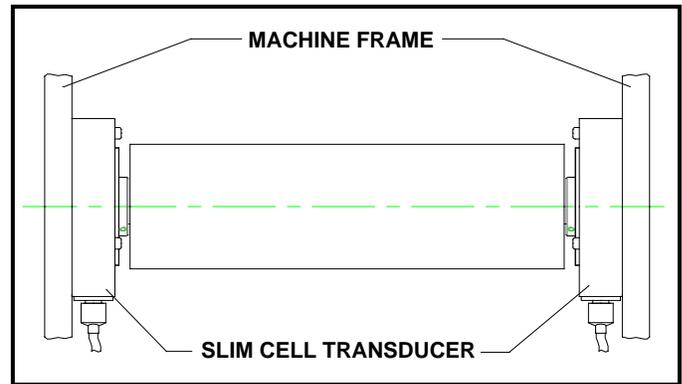
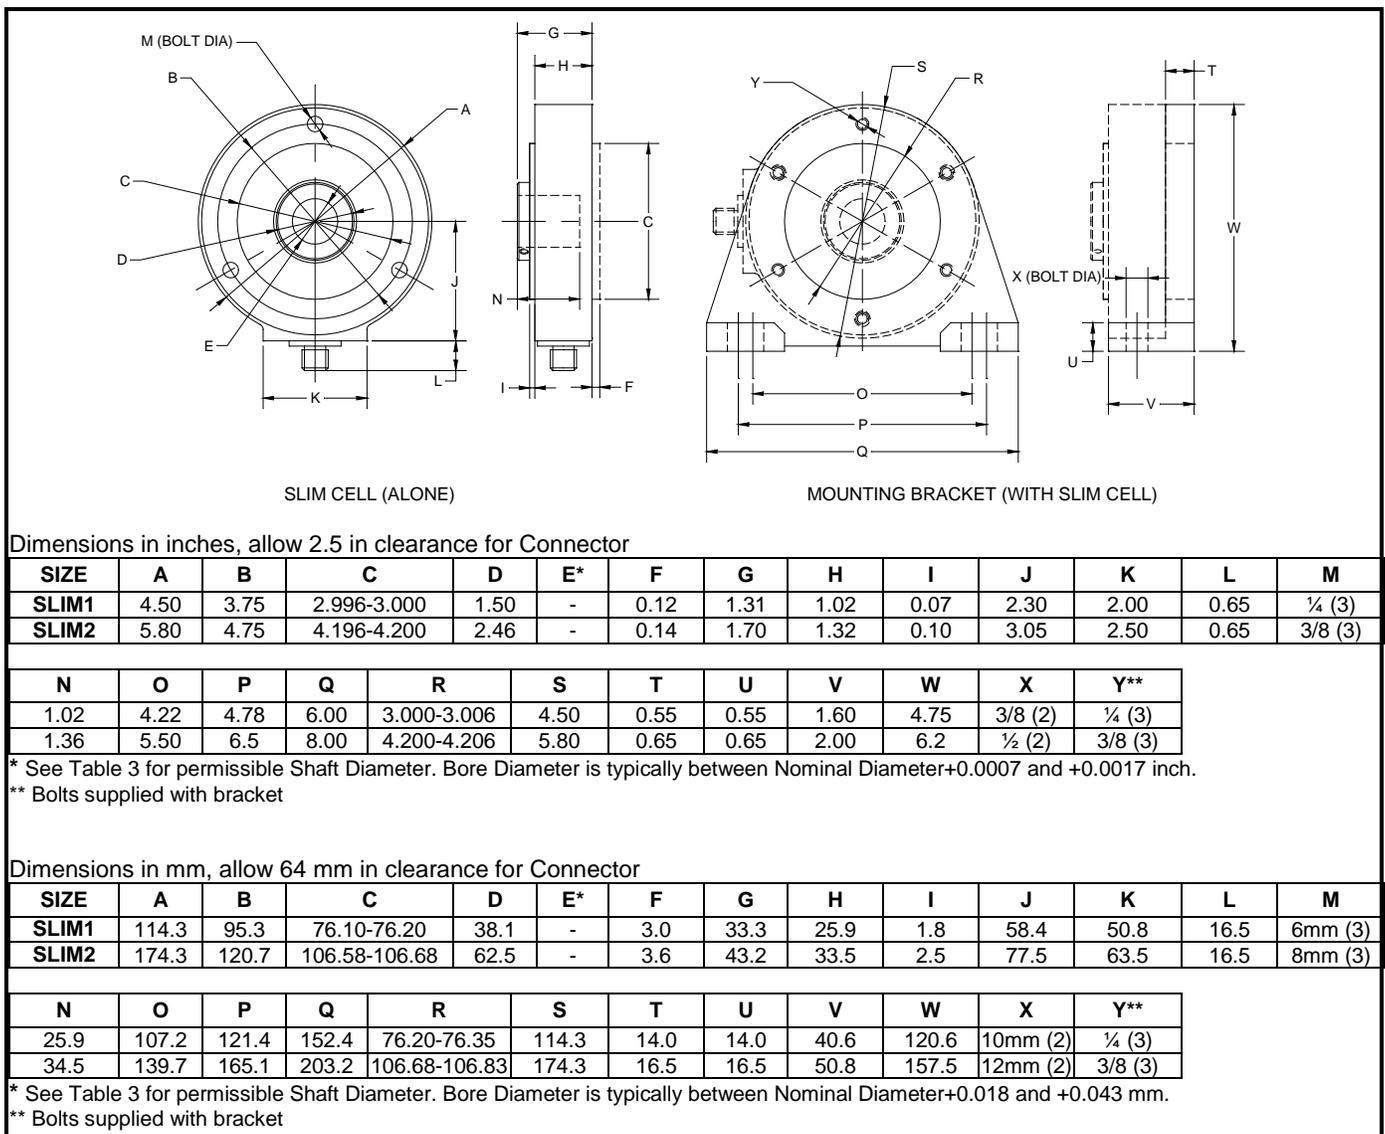
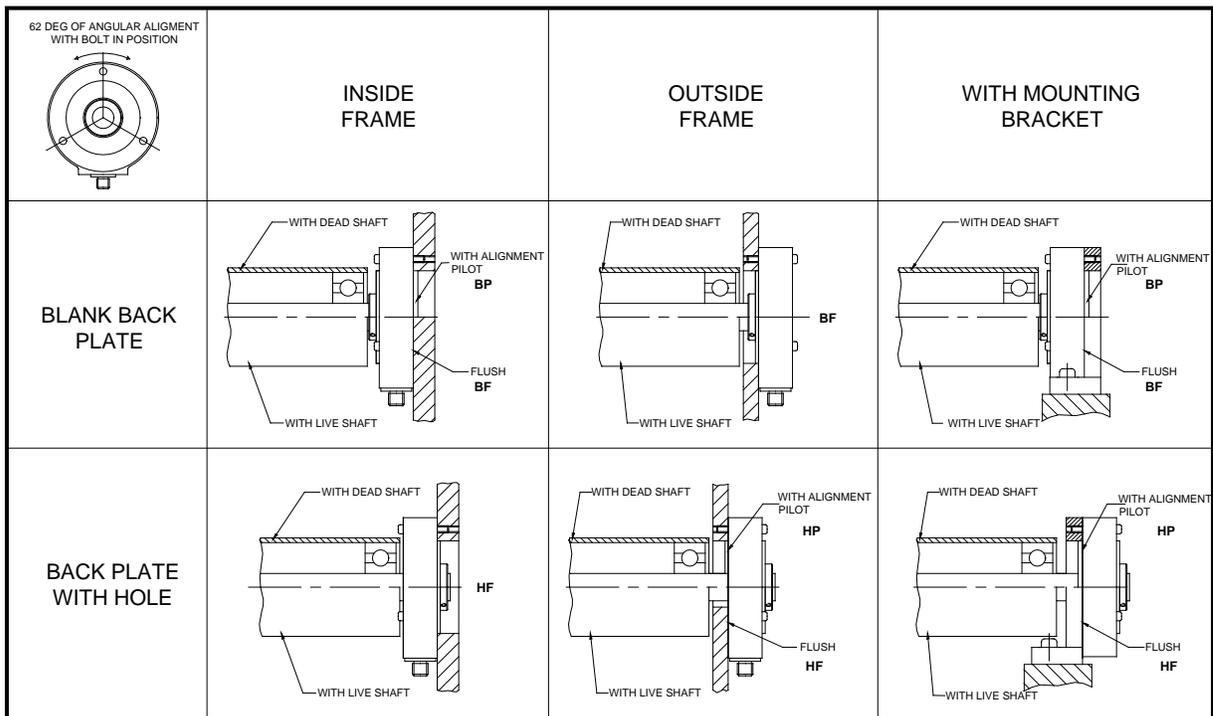

Figure 1
Figure 2
Figure 4
For many applications SLIM CELL transducers are for use with rotating (live) shaft rolls that are traditionally mounted in Pillow Block Bearings. See **Figure 1**. For mounting dimensions see **Figure 2**. But SLIM CELL transducers can also be used with stationary (dead) shaft rollers.
See Figure 4.
Note that the Slim Cell can be mounted on either side of the machine frame (see **Figure 4**). Determine the arrangement that best suits your application. The load cell is mounted in place with 3 bolts. Before drilling and tapping the mounting holes in the machine frame read the instructions below. (**Orientation and Mounting of the Slim Cell**) to insure that the Slim Cell is properly aligned. The holes should be located so that load cell can be mounted to achieve proper alignment. Refer to dimension B and M in Figure 2 for the proper bolt hole centers and bolt size. The bolt hole centers are evenly spaced on a circle and are 120 degrees from each other.
Determine the correct position for the mounting bracket. Note that the Slim Cell can be mounted on either side of the bracket. Refer to Figure 4. Determine the arrangement that best suits your
Drill and tap two mounting holes in the machine frame for each bracket. Refer to dimension X in Figure 2 for the proper bolt diameter. The Slim Cell is mounted to the bracket with 3 bolts. Before mounting the load cell in place read the instructions below (**Orientation and Mounting of the Slim Cell**) to insure that it is properly aligned.
- For SLIM CELLS that don't have a through hole, make sure that the shaft doesn't go too deep inside the Load Cell and touch the back plate (See **Figure 2** letter H).
- When mounting a roll with a shaft that comes through the back plate (see **Figure 4**), push the adapter to the inside of the SLIM CELL before you tighten the set screws to allow for shaft expansion.